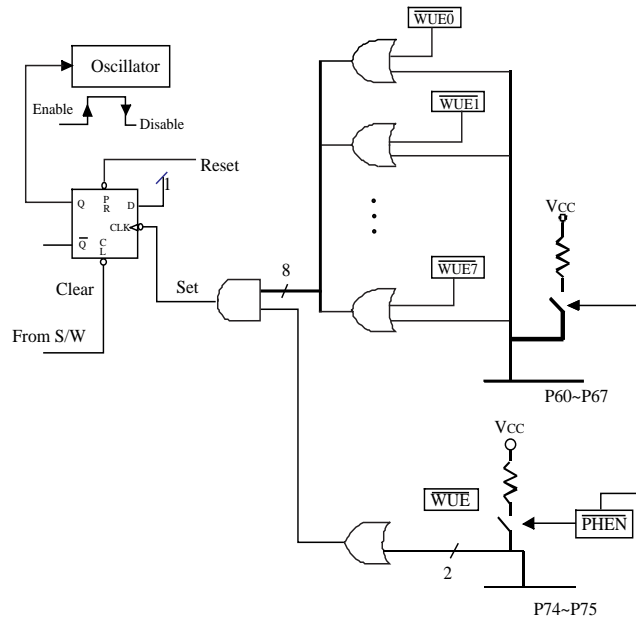

Fig. 5 Block diagram of sleep mode and wake-up circuits on I/O ports
- Bit 4 (SLPC) This bit is set by hardware at the falling edge of wake-up signal and is cleared in software. SLPC is used to control the operation of oscillator. The oscillator is disabled (oscillator is stopped, and the controller enters the SLEEP2 mode) on the high-to-low transition and is enabled (the controller is awakened from SLEEP2 mode) on the low-to-high transition. In order to ensure the stable output of the oscillator, once the oscillator is enabled again, there is a delay for approximately 18 ms (oscillator start-up timer, OST) before the next instruction of program being executed. The OST is always activated by wake-up from sleep mode whether the Code option bit WTC is “0” or not. After waking up, the WDT is enabled if Code Option WTC is “1”. The block diagram of SLEEP2 mode and wake-up caused by input triggered are depicted in Fig. 5.
- (a). Any one of wake-up pins is “0”. Please refer to Fig. 5. When waking, the controller will continue to execute the successive address. In this case, before entering SLEEP2 MODE, the wake-up function of the trigger sources (P60~P67, and P74~P75) should be selected (e.g. input pin) and enabled (e.g. pull-high, wake-up control). One caution should be noticed is that after waking up, the WDT is enabled if Code Option bit WTC is “1”. The WDT operation (to be enabled or disabled) should be appropriately controlled by software after waking up.